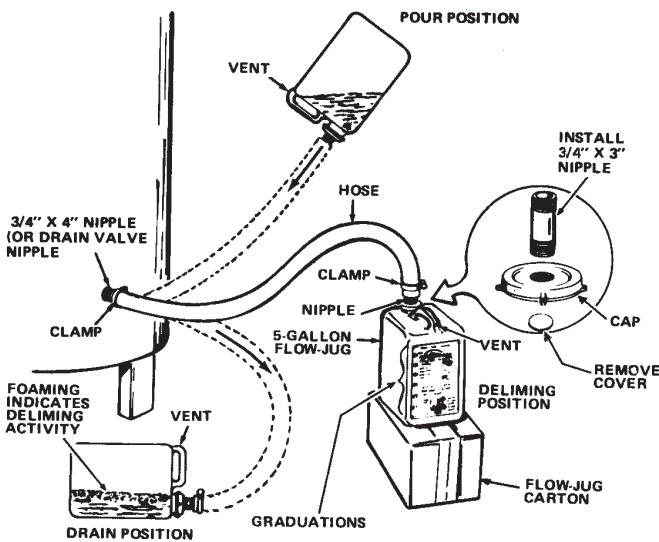

FIGURE 16
- Lift container to the "Pour" Position, see Figure 16, being careful to keep the vent in the handle above the liquid level and pour the UN•LIME into the heater.
- Let UN•LIME remain in the heater for 5 minutes and then lower the container to the "Drain" Position, see Figure 16.